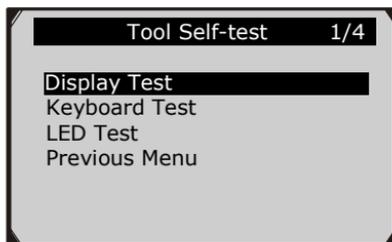

Figure 3.9
- 2) Select **Display Test** from **Tool Self-test** menu and press the **ENTER** button to start test. (Figure 3.9)